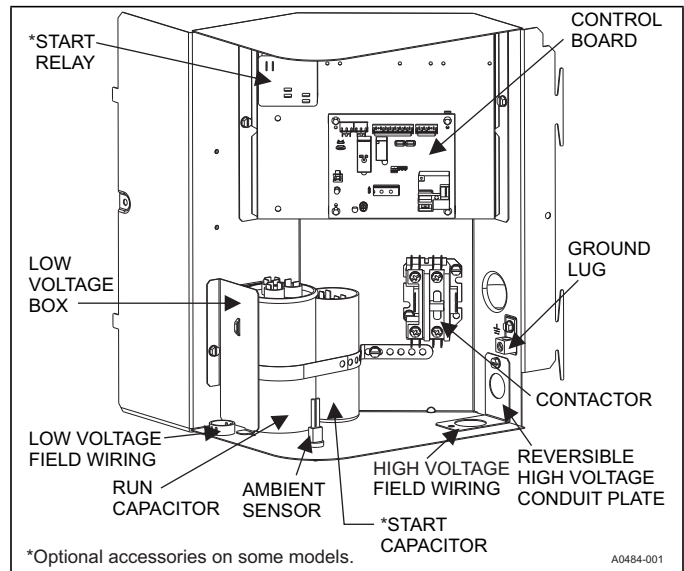
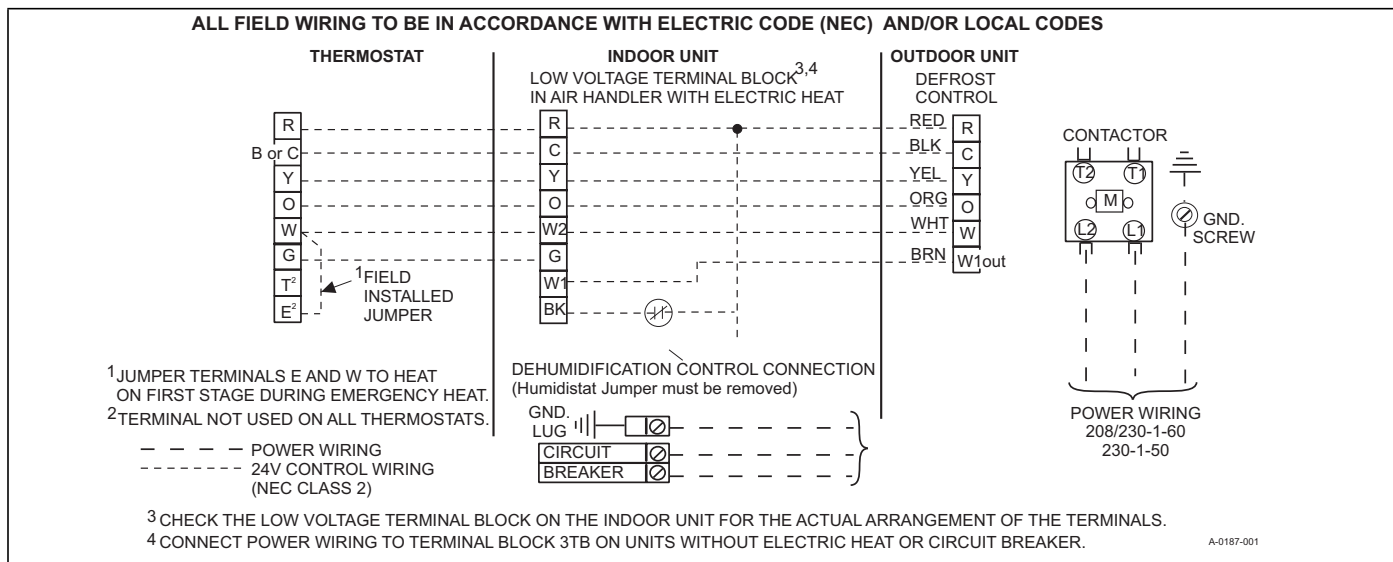

FIGURE 9: Outdoor Unit Control Box (Single Phase)
FIGURE 11: Typical Field Wiring (Air Handler / Electrical Heat) (Single-Phase)
4. Route wires from disconnect through power wiring exit provided and into the unit control box as shown in Figures 9 & 10.
1. Route low voltage wiring into bottom of control box as shown in Figure 9 or 10. Make low voltage wiring connections inside the low voltage box per Figure 11.